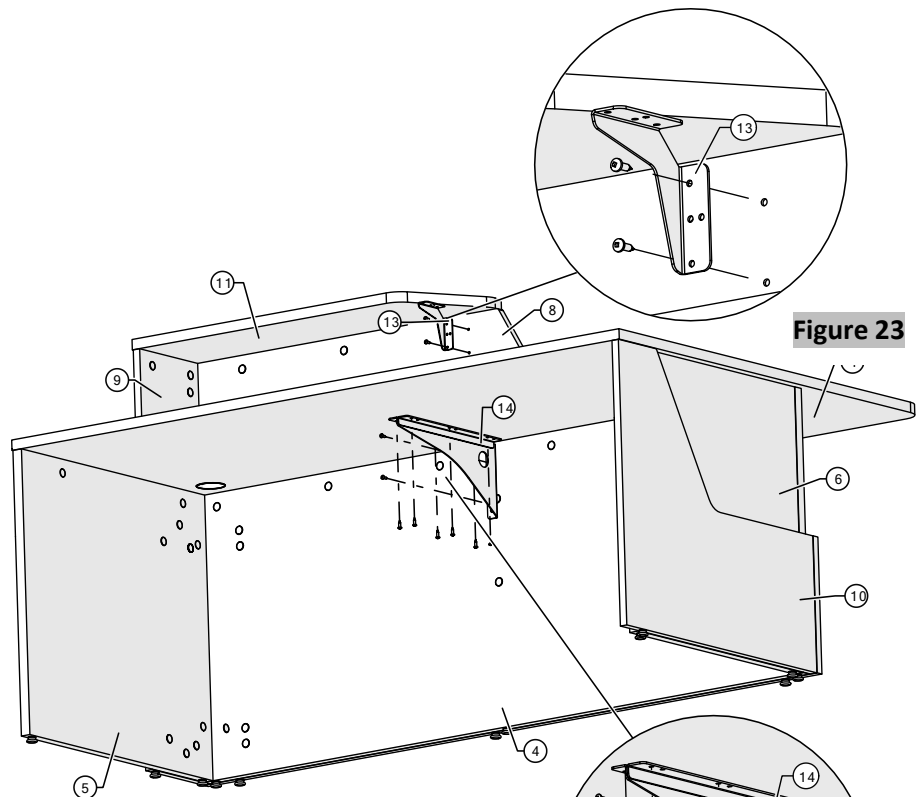

Figure 23
27. Align holes in the countertop bracket to pre-drilled holes of the angled reception countertop modesty; screw two #10 x 11/16" Pan Head Screws into the pre-drilled holes (Figure 23).